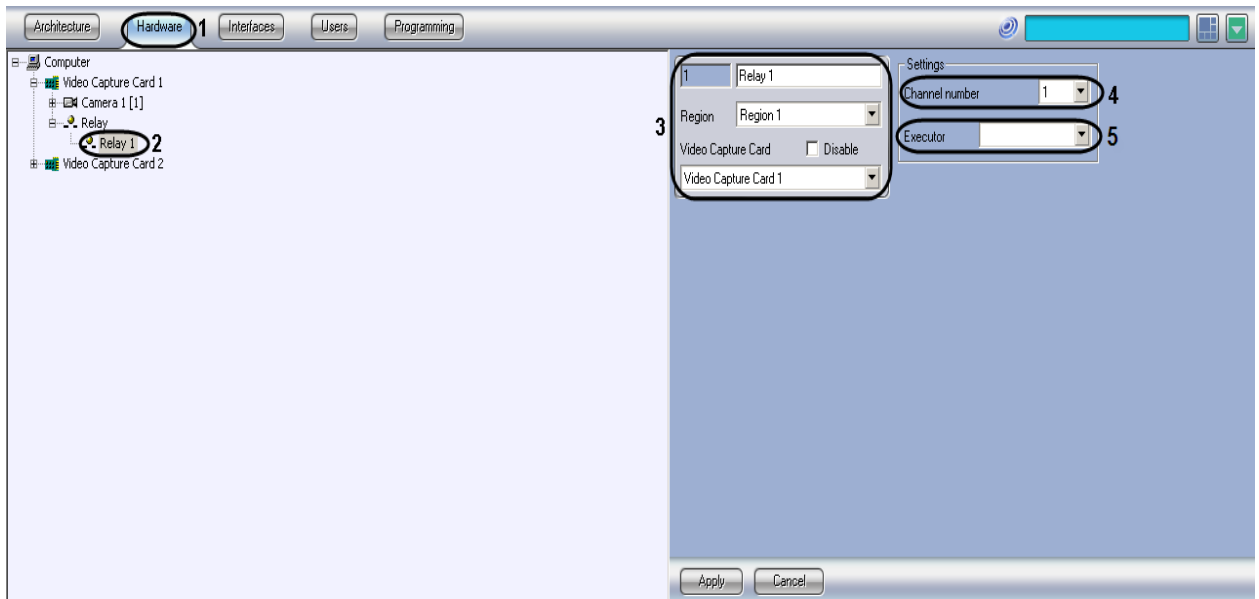

Figure 3.3-1 The setting panel of the Relay object
1. Go to the **Hardware** tab in the setting panel of INTELLECT™ (Figure 3.3-1, 1).
2. Create the **Relay** system object under the **Video capture card** object or select the corresponding object in the object tree in the **Hardware** tab of the setting panel of INTELLECT™ (Figure 3.3-1, 2).
3. Specify the ID and name of the **Relay** object and select the **Video capture card** object to become the parent of the **Relay** object (Figure 3.3-1, 3).
4. Select the **Channel number** matching the number of DO pin to which the relay is connected (Figure 3.3-1, 4).
5. In the **Executor** dropdown list select the type of executive device used as the relay in the guarded area (Figure 3.3-1, 5).